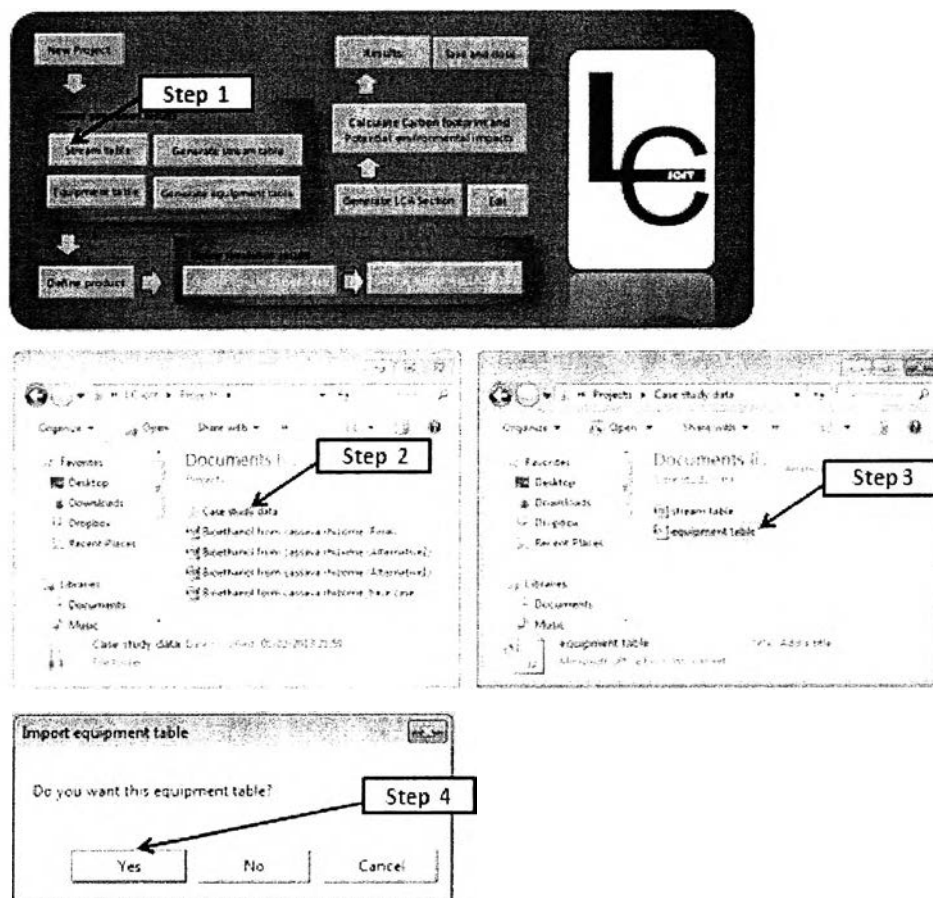

Figure A.12 Equipment table page
Step 1: Click “Import equipment table” button as shown in Figure A.12. Step 2: Select the stream table from the “Open file” window. Step 3: Click “Open” button in open file window and click “Yes” button to confirm to use the table. The equipment table will be imported into LCSofT, the user can check if the equipment table is correct by open “Equipment table” page as show in Figure 12. If the user would like to change the table, follow step 1 to step 3 again.